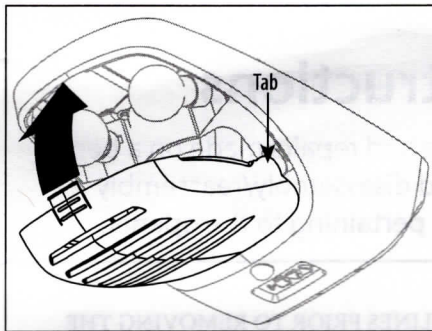

FIG. 1
4. Open lens cover and remove light bulbs. FIG. 1. (See reverse side)